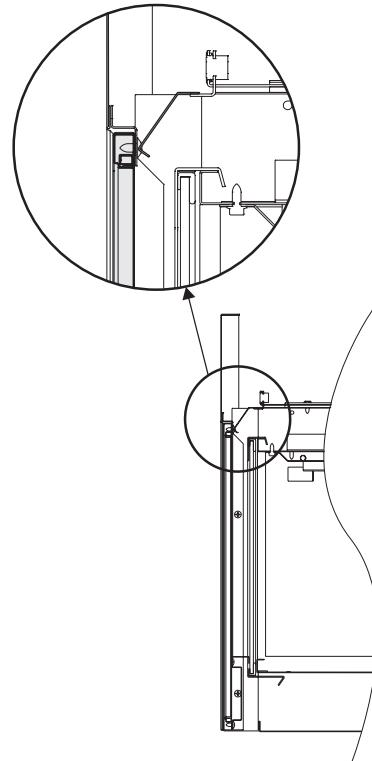

Figure 23
3. Once the lower return flange on the back of the barrier is place against the glass door fame, gently lift the barrier screen up about 3/8 of an inch, push inward on the barrier, then release and lock the lower return flange between the door glass and lower door frame. See Figure 23.